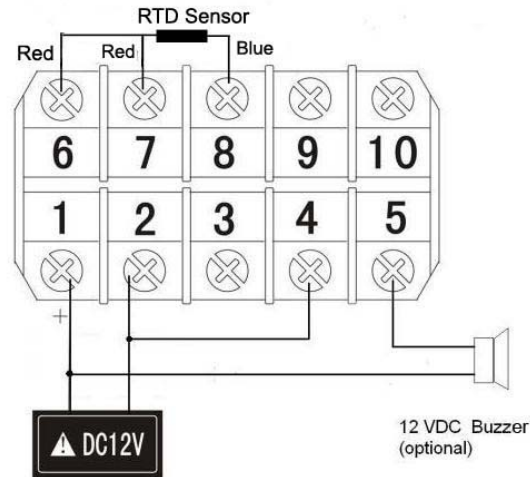

Fig 1. Wiring diagram
- 2) To operated it, connect 12 VDC to terminal 1 (+) and 2 (-). Connect the RTD sensor, The sensor has three wires. Connect the reds to terminal 6 and 7, and blue to 8 as shown in Fig. 1